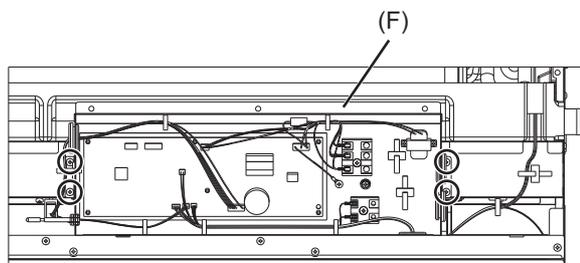

Fig. 5
3. Remove the fixing screws on the control box (F) to remove it. (Fig. 5)